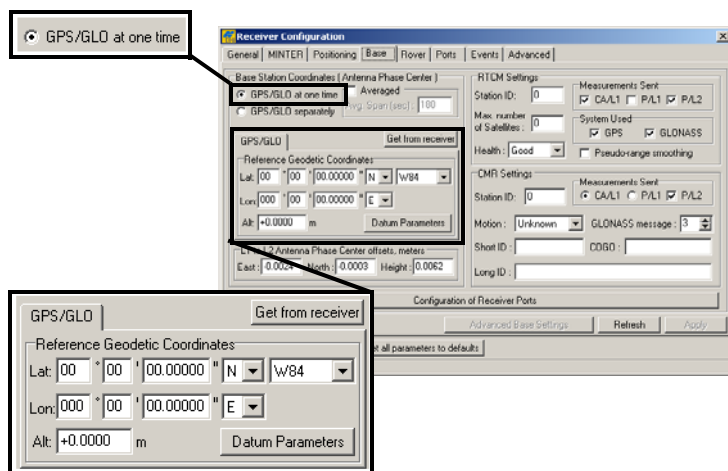

Figure 3-12. Base Configuration
9. For the Base receiver, click the *Base* tab and set the following parameters (Figure 3-12 on page 3-16), then click **Apply**.